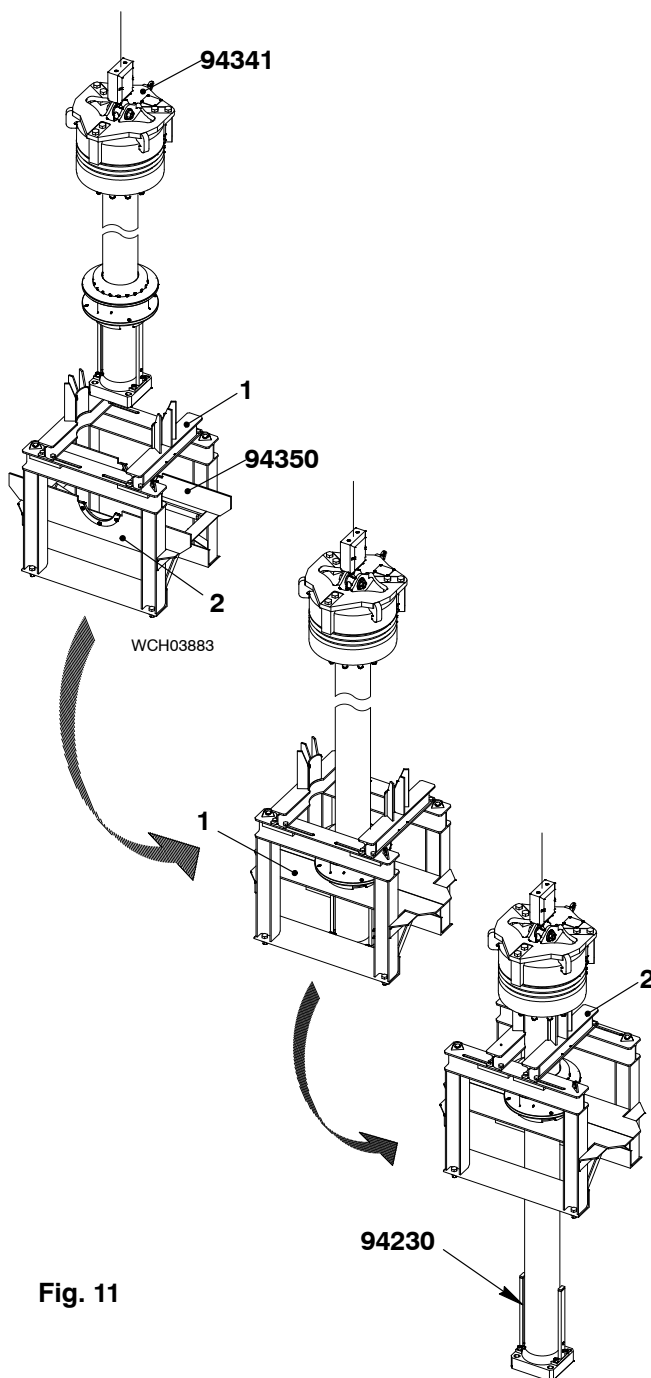

Fig. 11
- 31) Lower and align the piston between the supports (1, Fig. 11) until the piston rod foot is below the plates (2).
- 32) Close the plates (2).
- 33) Push fully in the two supports (1).
- 34) Tighten the four screws (3).
- 35) Lower the piston on to the supports (1).